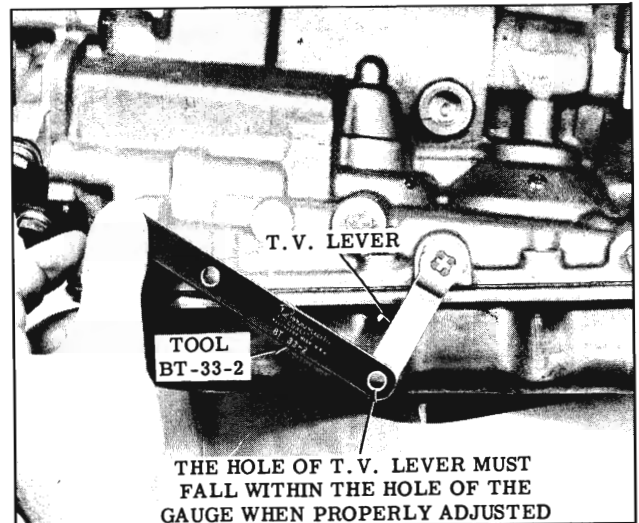
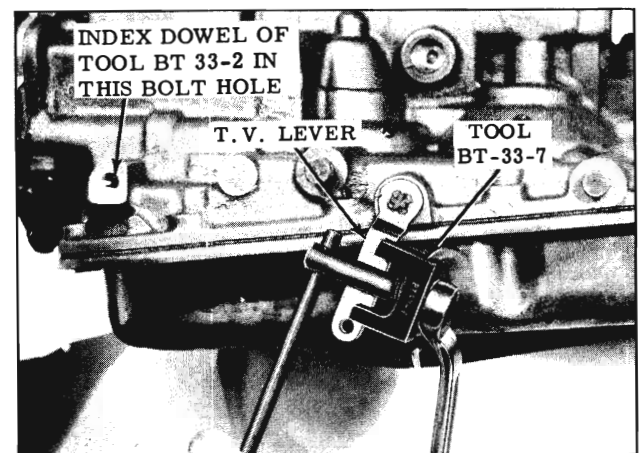

Fig. 3-325 Checking T.V. Lever
Fig. 3-326 Bending T.V. Lever
2. Disconnect lower T.V. rod from T.V. lever and position gauge BT-33-2 as shown in Fig. 3-325. The hole of the T.V. lever must be within the hole of the gauge as shown when
holding T.V. lever in rearward position. If the hole of the T.V. lever does not fall within the gauge hole, bend the lever with bending tool BT-33-7. (Fig. 3-326)
2. Disconnect lower T.V. rod from T.V. lever. With gauge BT-33-2 check the position of the T.V. lever. The hole in the T.V. lever must be within the hole of the gauge when holding T.V. lever in rearward position. (Fig. 3-325) If the hole of the T.V. lever does not fall within the gauge hole, bend the lever with bending tool BT-33-7. (Fig. 3-326)
2. Disconnect lower T.V. rod from T.V. lever and position gauge BT-33-2 as shown in Fig. 3-125. The hole of the T.V. lever must be within the hole of the gauge when holding the T.V. lever in the rearward position. If the hole of the T.V. lever does not fall within the gauge hole, bend the lever with bending tool BT-33-7. (Fig. 3-326)